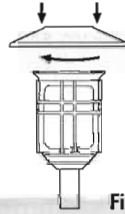

Figure 10
3. Replace the cap on the globe (Figure 10).